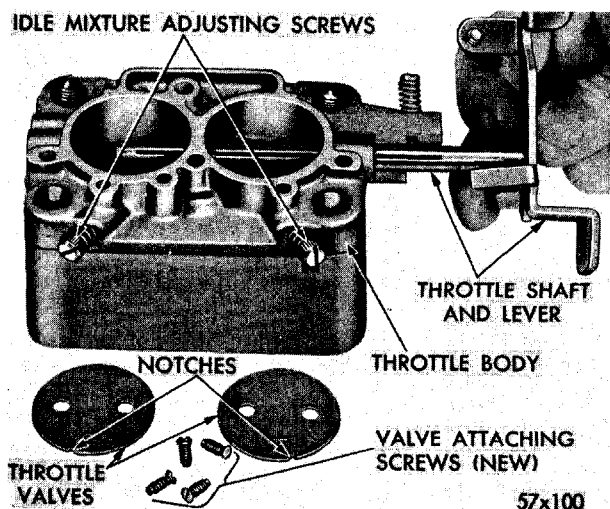

Fig. 13—Removing or Installing Throttle Shaft
(2) Mark the valves to be sure each is replaced in the same bore from whence removed.
(3) Remove the screws that hold the throttle valves to the throttle shaft, then slide the valves out of the throttle shaft. **CAUTION: These screws are staked on the opposite side and care should be used at removal so as not to break the screws in the shaft.**
(4) Slide the throttle shaft out of the throttle body.
(5) Install the new throttle shaft and lever in the throttle body, as shown in Figure 13. The fast idle lever should rest against the idle speed adjusting screw. **The idle speed adjusting screw must be backed out when seating the valves in the following operation.**